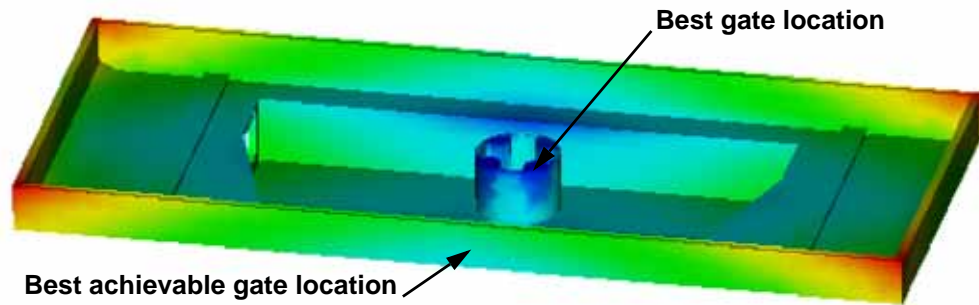

Figure 91: Best location for the gate
Keeping in mind the design criteria, this best gate location will not work because it can't be reached with a cold runner and tunnel gate. Currently, there is no way the gate location analysis can take into account the design criteria of where you can or cannot place a gate. The closest gate location to the best gate location that will work is shown in Figure 91 and is the center of the long side. Either long side will have about the same results.
4. Double-click the **Set Injection Locations** icon  in the study tasks list. Place the injection location at the best achievable gate location as shown in Figure 91.